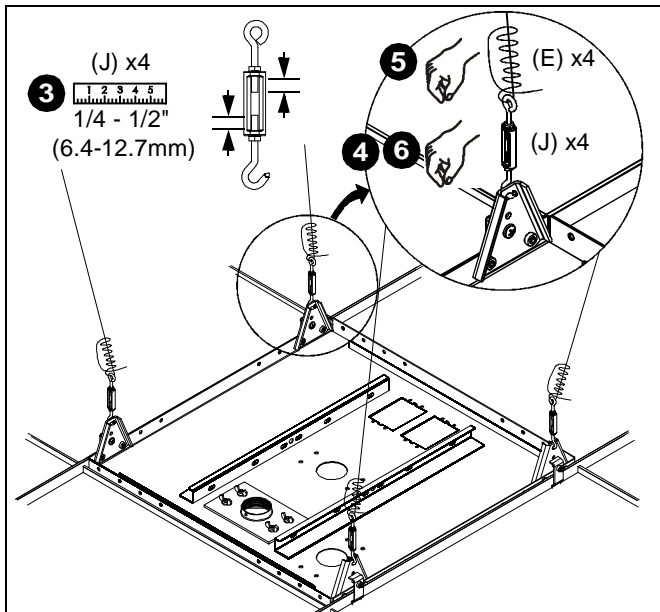

Figure 12
3. Adjust hooks and eyes on turnbuckles (J) so that approximately 1/4-1/2" (6.4-12.7mm) of threads show on *inside* of turnbuckles (See Figure 12).
4. Attach the hook end of each turnbuckle (J) to the corresponding hanger bracket (G) upper hole (See Figure 12).
5. Insert corresponding hanging wire (E) through eye in turnbuckle (J). Pull wire tight and twist back around itself at
least 4 complete turns, then thread loose end between eye and first turn (See Figure 12). Repeat for 3 remaining turnbuckles (J).
6. Adjust turnbuckles (J) until tray (A) is supported *entirely and evenly* by all four support wires (E), but not so tight as to distort suspended ceiling framework (See Figure 12).